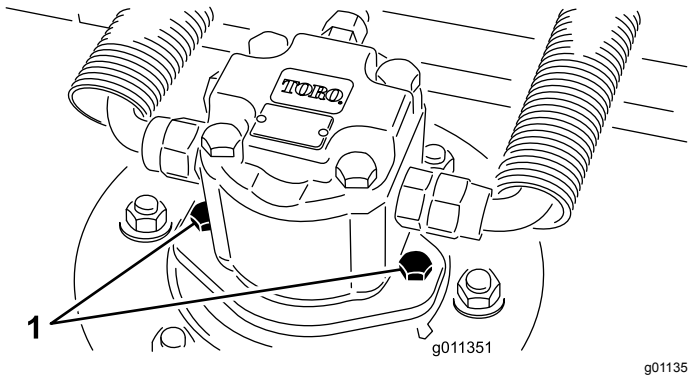

Figure 61
2. Disconnect and remove the hydraulic motor from the cutting unit (Figure 61). Cover the top of the spindle to prevent contamination.
4. Install the hydraulic motor to the deck (Figure 61). Make sure that the O-ring is in position and not damaged.